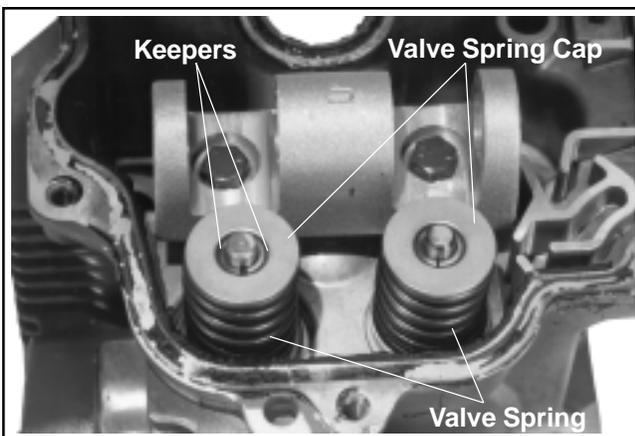

Figure 11-39. Installing Valve Keepers.
2. Install the intake valve stem seal\*, intake valve, spring retainer\*, intake valve spring, and valve spring cap. Compress the valve spring using a valve spring compressor and install the keepers. See Figure 11-39.